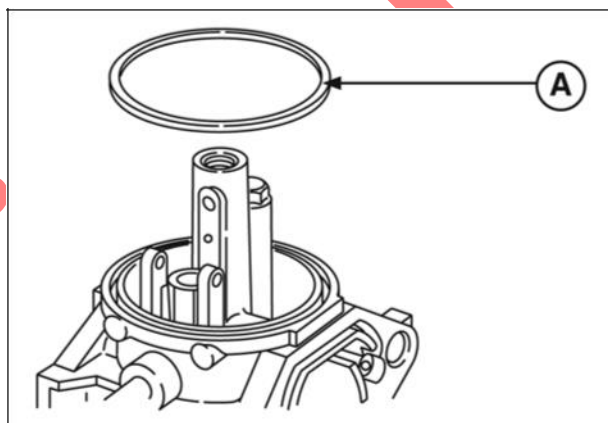

Figure 7
3. Remove carburetor bowl gasket (A, Figure 7).